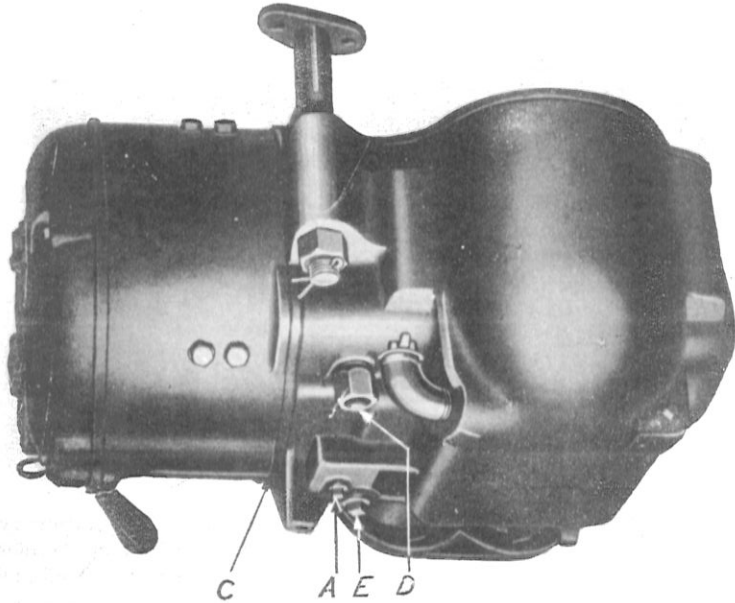
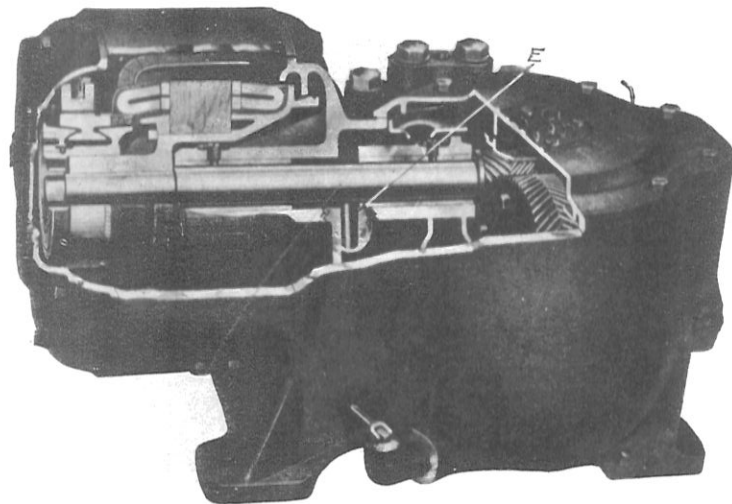
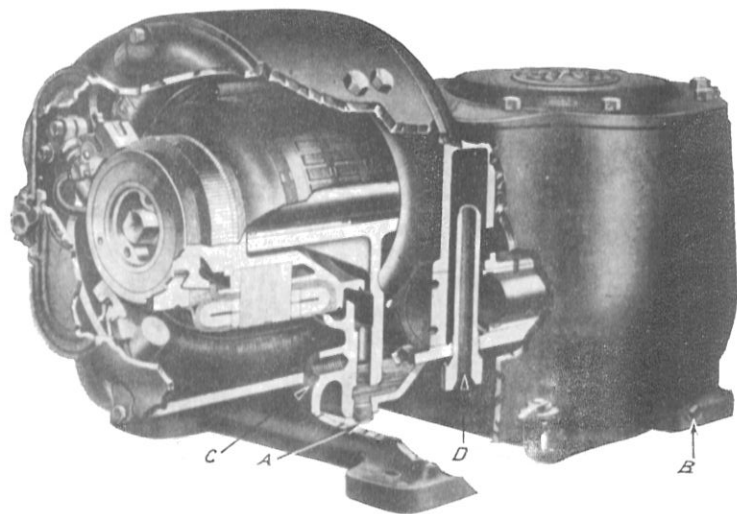

Fig. 4. Type CP-27-B Air Compressor
Fig. 7. Type CP-27 Air Compressor, Section View Showing Motor End
Fig. 10. Type CP-27-A Air Compressor Showing Vent Pipe and Oil Return to Crank Chamber
Fig. 4 shows the underside of the compressor as viewed from a pit. The oil drain "C" located at the junction of the motor frame and compressor frame does not normally discharge oil, but is provided as a safety device to permit the oil to escape in case the oil does not return properly to the crank chamber.
If oil appears on the compressor frame immediately below drain "C," the vent pipe "D" should be examined and thoroughly cleaned out if it is found in a clogged condition. A short piece of wire with its end bent at a right angle is commonly used for this purpose. In the absence of this, a long bladed screw driver or a clean stick will answer the purpose. In cleaning out the vent pipe care should be taken to draw any dirt which may have accumulated out at the bottom instead of pushing it up through the top into the crank chamber. A record should be kept of a compressor found in this condition, and if at the next regular inspection oil has reappeared on the compressor frame below drain "C," the $\frac{1}{2}$ -in. pipe plug "A" should be removed and the oil passage between the motor and crank chamber thoroughly cleaned out. When the oil fails to return properly to the crank chamber, it will usually be found that the trouble is due to the vent pipe being clogged, and it is, therefore, recommended that an examination of this vent pipe be made a part of regular inspection regardless of whether there is an accumulation of oil on the compressor frame below drain "C" or not. The general arrangement of the oil return passage is shown in Fig. 10. Instances where this passage has become clogged with sediment are very rare.
A $\frac{3}{4}$ -in. pipe plug "E" is located at the bottom of a settling well between the armature shaft bearings. This plug should be removed and any sediment which may have collected drawn off at regular intervals of once a year or less. The upper end of this settling well is designated as "E" in Fig. 7.
1. Place a block under the feet at the motor end of the compressor. This will cause the oil in the pocket between the armature bearings to drain back the crank chamber instead of flowing into the motor when the armature is removed. (See Fig. 7.)
13. The armature bearing linings can be removed by turning out the screw dowels (Fig. 7) and forcing the linings out with draw bolts.
the bottom of the settling well between the armature bearings (see "E," Fig. 4, the top of the settling well is designated "E" on Fig. 7); the second plug is under the passage where the oil, thrown off by the bell end of the armature, returns to the crank chamber (see "A," Fig. 4 and 10); the third is in the side of the crank chamber, near the crank shaft bearing which is farthest from the motor (see "B" on Fig. 10).